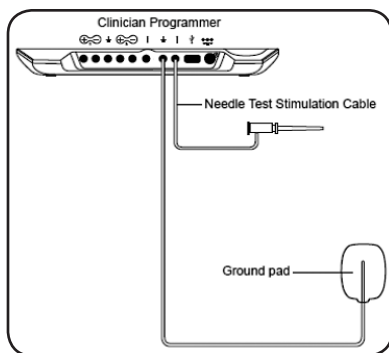

Figure 2. Clinician Programmer cable connections for the lead implant procedure.
- e. Insert the black plug into the CP ground (⊥) next to Needle Test Stimulation Cable (**Figure 2**).
7. Insert the black plug of the needle test stimulation cable into the CP outside the sterile field (**Figure 2**). Keep the clip end of the cable in the sterile field.